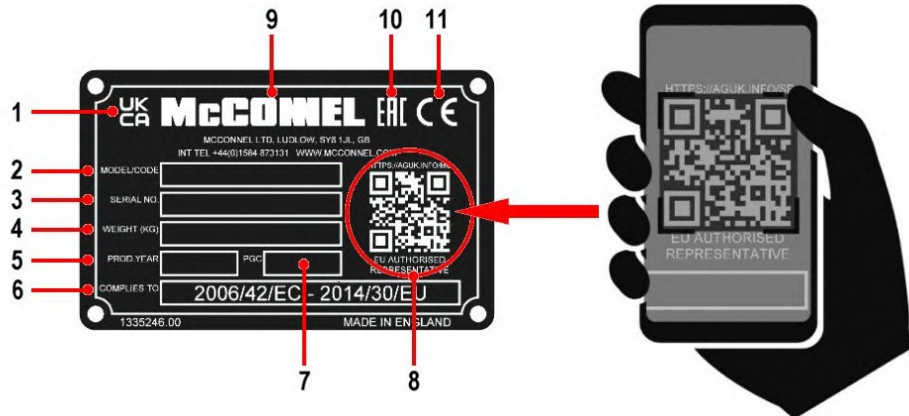

Figure 1.6 – Serial Plate
Each machine is equipped with a serial plate; see Figure 1.6 that includes the following data in this order:
By utilising a smart phone and scanning the Authorised Representative QR scan code found on the right-hand side of the serial plate (ref 8, Figure 1.6) using a suitable QR scanning App, you can find details for McConnell Machinery authorised representatives for its various territories.